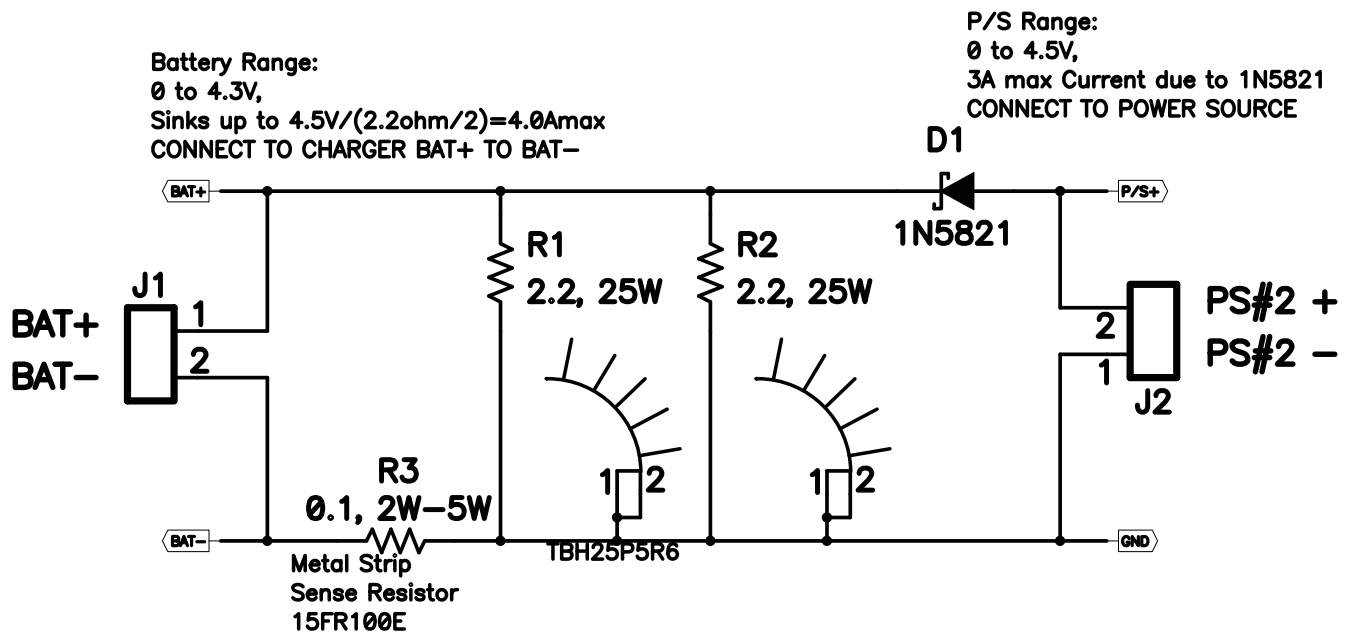
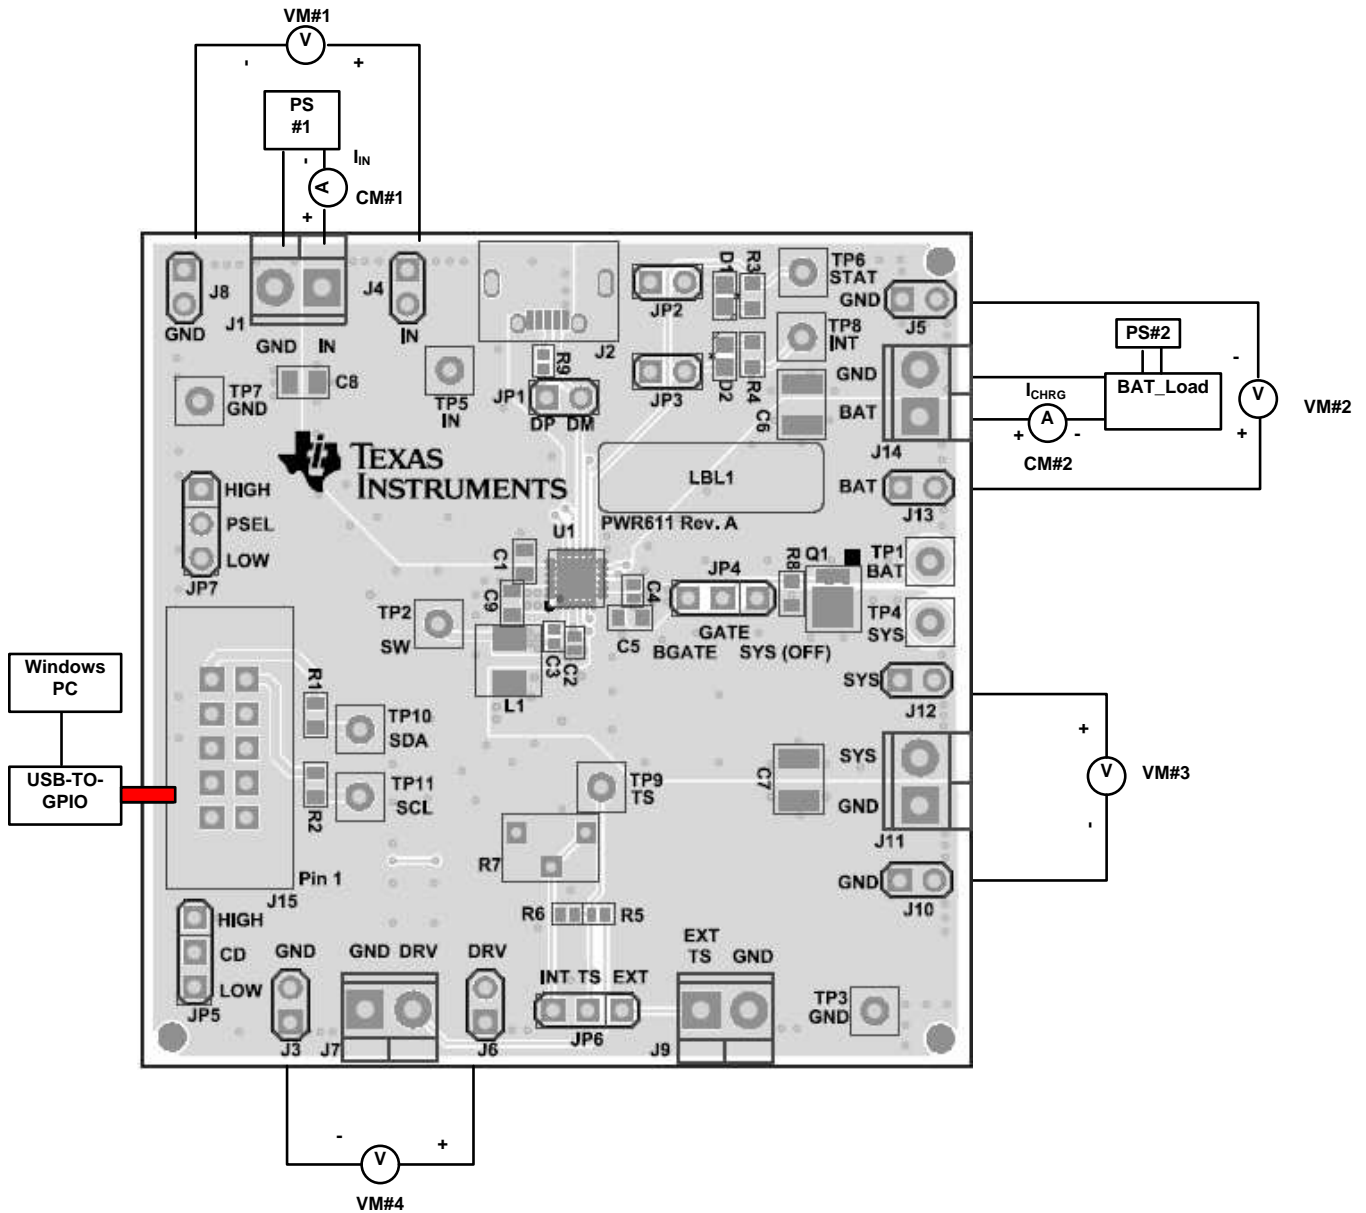

Figure 2. BAT\_Load (PR1010) Schematic
Figure 4. Original Test Setup for bq24260, bq24261, bq24262 EVM
2. If not using a battery as the load, then power supply #2 (PS #2) capable of supplying up to 5 V at 5 A is required to power the circuit shown in Figure 2.
Testing with an actual battery is the best way to verify operation in the system. If a battery is not available, then a circuit similar to the one shown in Figure 2 can simulate a battery when connected to a power supply.
- After the preceding steps have been performed, the test setup for bq2426XEVM-611 is configured as shown in Figure 4.
- Connect the output of PS #1, with at least a 4-A current limit setting, in series with CM #1 to J1 as shown in Figure 4.
- Connect either a real single-cell lithium ion battery or battery simulator across J14 or J13/J5 (BAT, GND) with CM #2 in series as shown in Figure 4. If using a battery simulator like the one shown in Figure 2 and referred to as BAT\_LOAD in Figure 4, configure PS #2 with at least 4-A current limit for 3.4 V.